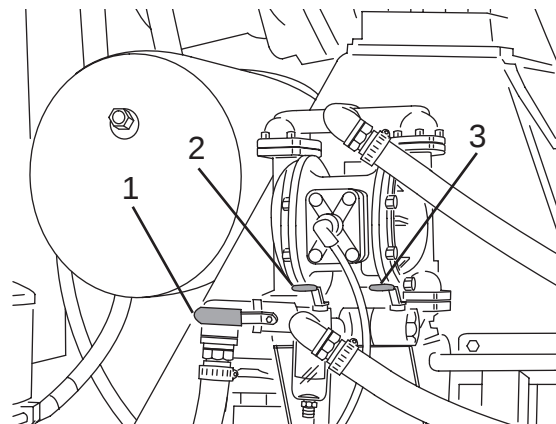

Figure 91
10. Close the main tank ball valve (Figure 91, Item 2) and chemical tank ball valve (Figure 91, Item 1) (if equipped).
11. Open the purge valve (Figure 91, Item 3).